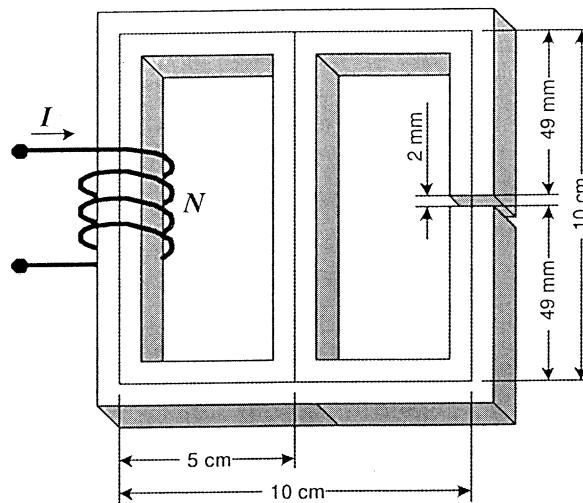

Figure 5: Magnetic core for Question 5
A magnetic core is shown in Figure 5. Assume that the core cross section is uniform and equal to 100 mm^2 , relative permeability $\mu_r = 2000$, number of winding turns $N = 100$ and current $I = 1\text{A}$ ($\mu_0 = 4\pi \times 10^{-7} \text{ H/m}$).
- Draw the analog circuit representation of the magnetic circuit from Figure 5.